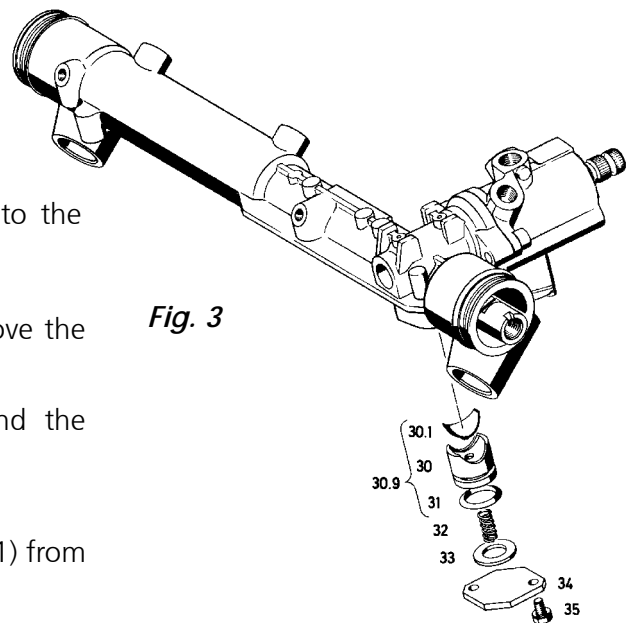

Fig. 3
Screw the hexagon screws (35) out and remove the cover (34) (*Fig. 3*).